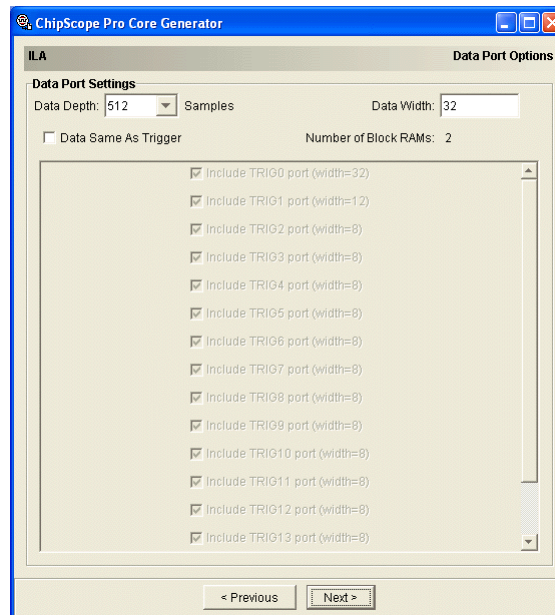

Figure 2-9: ILA Core Data Port Options
After you have set up the ILA core trigger port options, click **Next**. This takes you to the fourth screen in the Core Generator that is used to set up the of the ILA core data port options (Figure 2-9).
- **Data Separate from Trigger (Figure 2-9, page 2-12)**